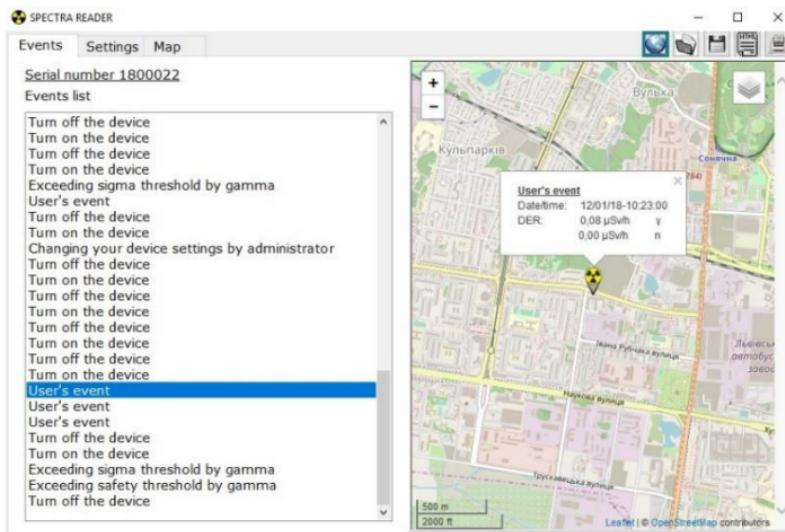

Figure 23 – Event display on the map
- display the event on the map, according to the coordinates where it was saved (if the coordinates have been added) (Fig. 23).